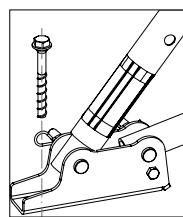

Fig. A4.03a
3. Fix Base Plates of Push-Pull Props and Kickers on a sufficiently load-bearing surface area, e.g. using PERI Anchor Bolt 14/20x130, Item no. 124777. (Fig. A4.03a)